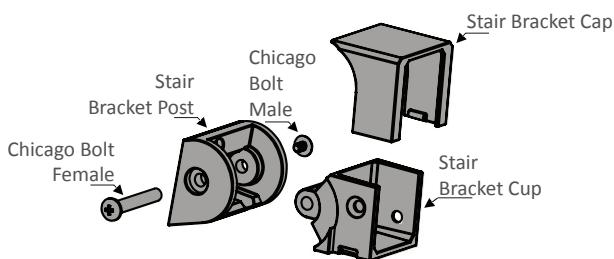

Fig. 4
7. Place top rail bracket bases on previous top edge mark. Center the base on the post and use pencil to add marks for two screw hole locations. As shown in Fig. 4.